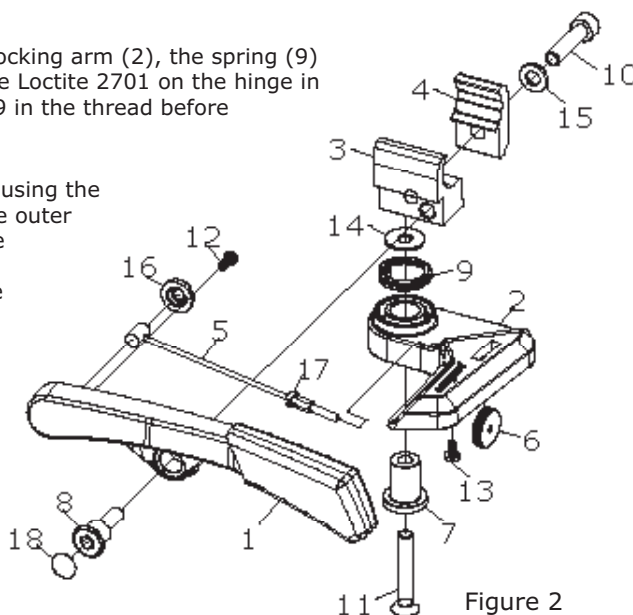

Figure 2
2. To assemble the brake on this chair you should slightly loosen the bolt (10) at the inside of the brake (figure 2) to enable the brake clamps (3 and 4) to fit around the seat tubing of the wheelchair.
Assembling the brakes (see figure 2):